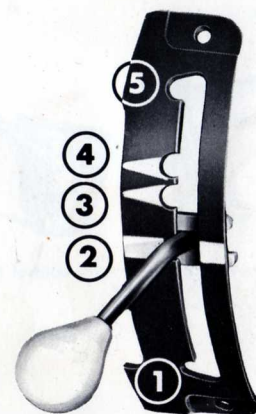

Fig. 16 - Ground clearance adjustment
**Adjustment of ground clearance (Fig. 16)**